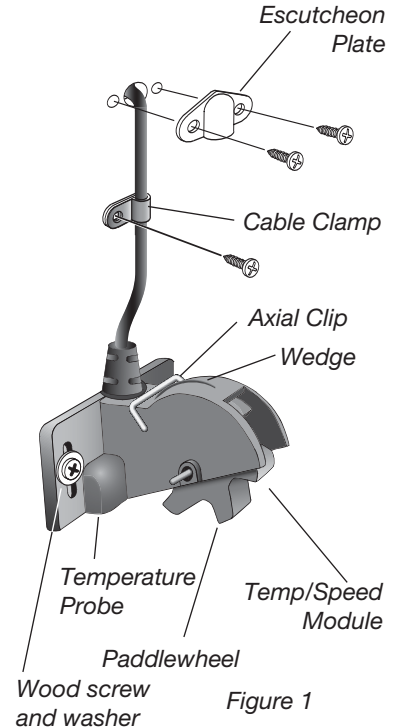

Figure 1
**Note: The Paddlewheel must be oriented so that it is scooping the water (see Figure 1).**